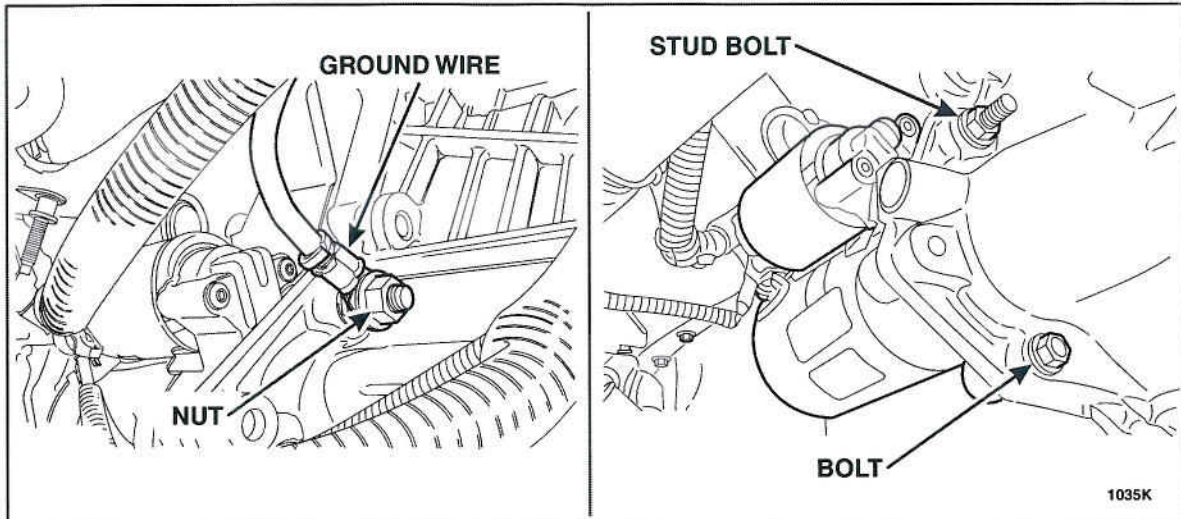

FIGURE 20
44. Position aside the starter. See Figure 20.
14. Reinstall the starter. See Figure 20.